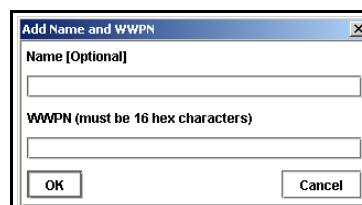

Figure 198. Adding a Name and WWPN for Fibre Channel Authentication
2. Click Add. The Add Name and WWPN window opens, shown in Figure 198.